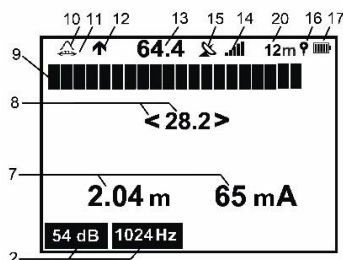

Fig. 19. Display in "Track" mode
- **TRACE** – to locate the utility and detect its depth and operating frequency current flowing through it. The display of this mode is shown in **Fig. 19**.
The indicator of the input signal strength in dB (for locating by peak and null) turns red when the corresponding input channels are overloaded (See Pos. 13, Pos. 8 **Fig. 19**).
If the double-frequency signal strength is sufficient, the indication of current direction (pos. 12 **Fig. 19**) will be active automatically. If the "Compass line" feature is used, the current direction will be shown with the utility position arrow direction (pos. 19 **Fig. 22**).